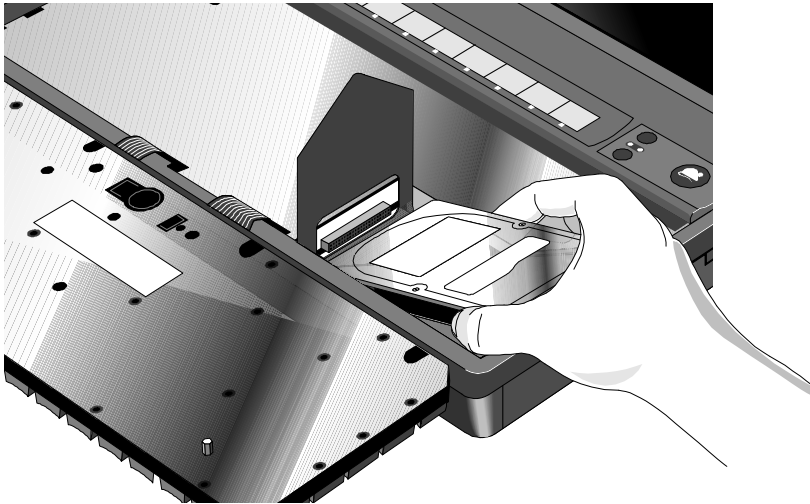

Figure 22 - Hard Drive Removal (continued)
6. Lift up on the insulator sheet and remove the hard drive. See Figure 22. The insulator sheet stays in place.